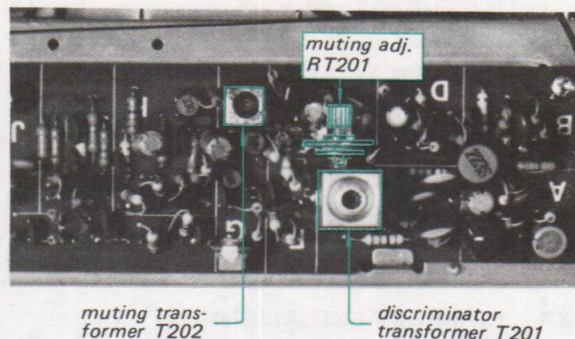

Fig. 3-4. Adjusting parts location
3. Turn the top core (secondary side) of discriminator transformer T201 (see Fig. 3-4.) with a hex-head alignment tool to obtain a null-point reading on the tuning meter. If the discriminator transformer (T201) is not aligned correctly, some deviation on the tuning meter will be observed.
2. Turn the knob of RT201 (see Fig. 3-4) fully clockwise on the fm i-f amplifier board.